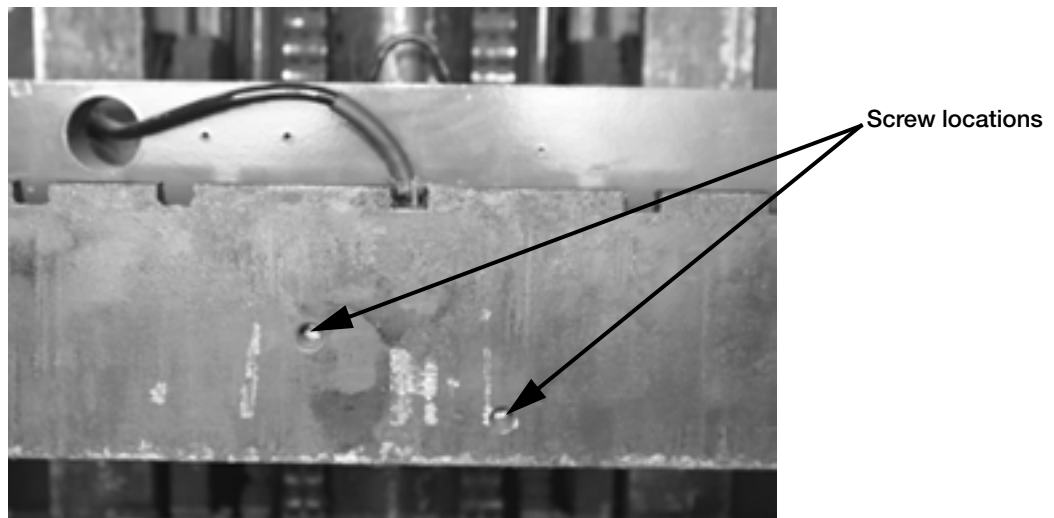

Figure 4-14. Screw Locations
4. Remove the two screws securing the junction box to the scale. See Figure 4-14 for screw location.